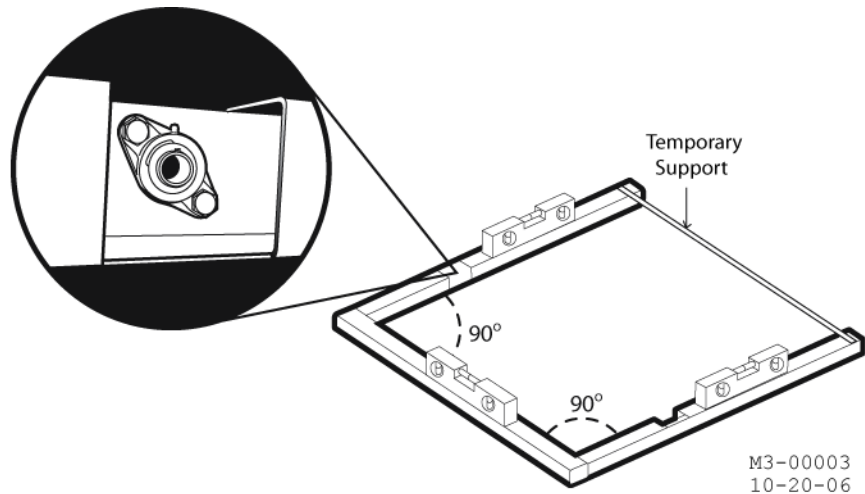

Figure 2-2: Assemble Fore Frame
3. Weld the uprights to the header. Also, tack weld a temporary support along bottom opening (such as angle iron) if needed. See Figure 2-2.